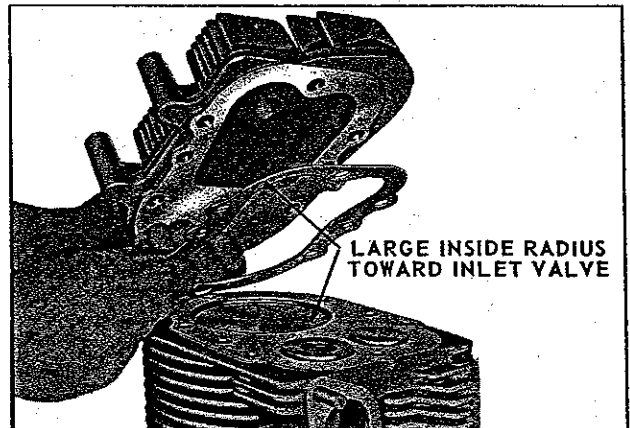

Fig. 24
#### CYLINDER HEAD and SPARK PLUG (Fig. 24)
*In reassembly*, use new cylinder head and spark plug gaskets. *Note*: Internal contour of cylinder head gaskets at inlet and exhaust valves are not the same. Mount gasket to cylinder block with the larger internal radius located at the inlet valve. See Fig. 24.